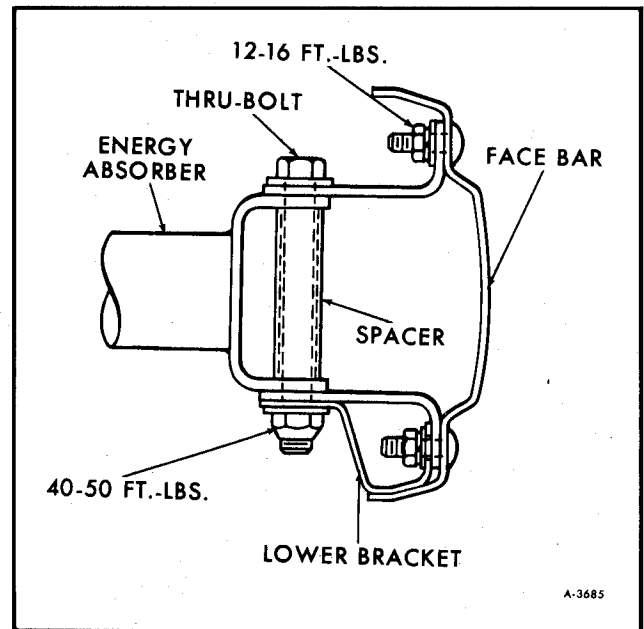

Figure 5—Front Bumper Bracket Mounting
1. Remove bumper by removing both bumper bracket thru bolts (See figure 5).
**NOTE:** Be sure lower bracket is properly installed (See figure 5) before tightening retaining nut.
1. Remove face bars by removing both bumper bracket thru- bolts (See figure 5).